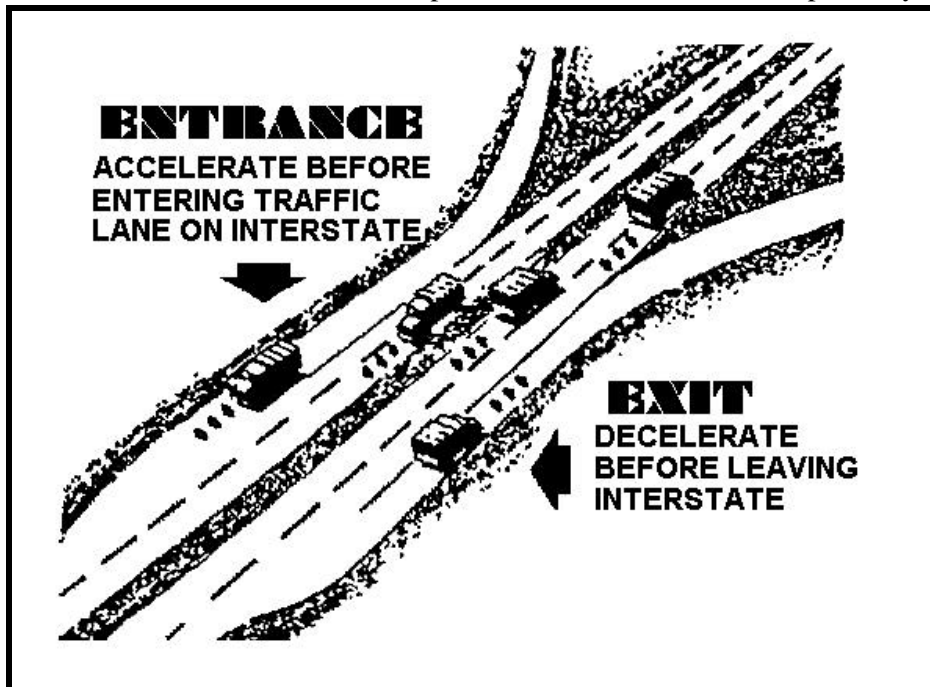

Figure 5-5. Entering and exiting an expressway
- Before driving onto the entrance ramp, close up convoy vehicles to a maximum distance of 20 yards. This reduces the time the entrance ramp is blocked to normal traffic (see Figure 5-5, page 5-18). Upon reaching the acceleration lane, increase convoy speed to equal as closely as possible that of other traffic on the expressway. The maximum speed authorized for military vehicles on expressways is 50 MPH. Military vehicles moving on controlled access highways will maintain the posted minimum speed or 40 MPH if a minimum speed is not posted. Vehicles that cannot maintain the posted minimum speed will be routed over an alternate noncontrolled access road (refer to AR 55-162). Do not exceed the minimum speed unless directed by the convoy commander. Under no circumstances will the posted maximum speed limit be exceeded.